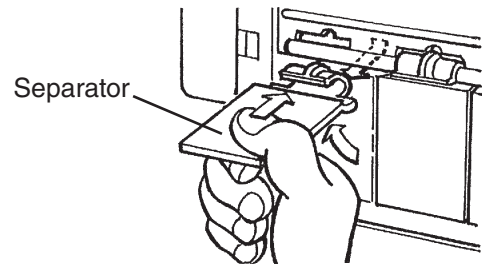

Fig. 36
- 3) Remove each separator by lifting it to the horizontal position and pushing it hard inward. See Fig. 36.